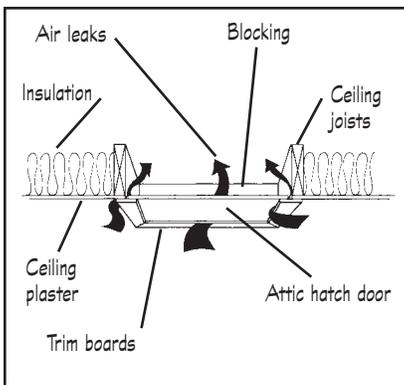
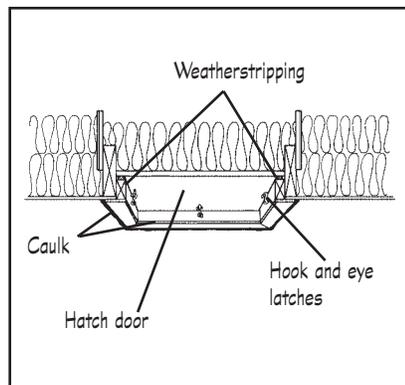

Figure 14
Figure 15
**Attic Entry.** If your access to the attic is through a simple hatch, repairing this major bypass is easy. (Figure 14) To fix it, install weatherstripping to the edges of the opening where the door sets. Then install eye hooks to the underside of the hatch to pull the hatch down and compress the weatherstripping for a tight seal. (Figure 15) Also, caulk where the trim meets the ceiling. Don't forget to insulate the top of the hatch. Do it by cutting a piece of faced fiberglass batt to fit snugly within the blocking and staple the facing paper to the hatch door. Or you can glue rigid board insulation to the top of the door.